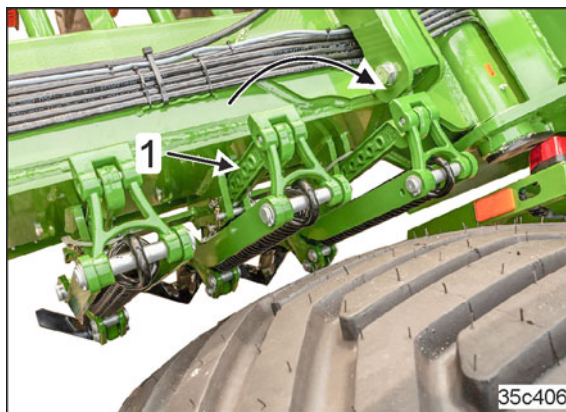

Fig. 197
2. Put the working depth in the desired position by repositioning the wheel mark eradicators (Fig. 197/1)